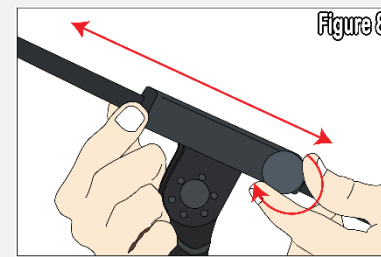

Figure 8
Step 5 – To adjust the angle of the boom microphone arm, loosen the knob as shown in Figure 7. To adjust the length of the arm, loosen the knob just below the arm as shown in Figure 8. Tighten these knobs to secure the angle and length you prefer.